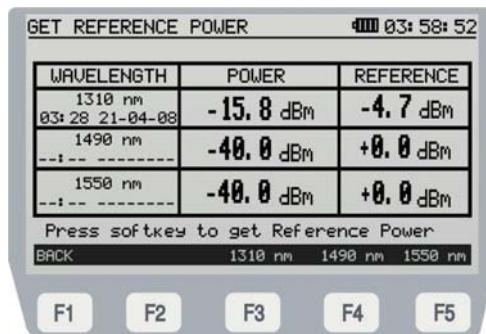

Figure 11.- REFERENCE function.
**REFERENCE** function allows you to define the reference values that will be used for **LOSSES** measurement (see Figure 11.-).